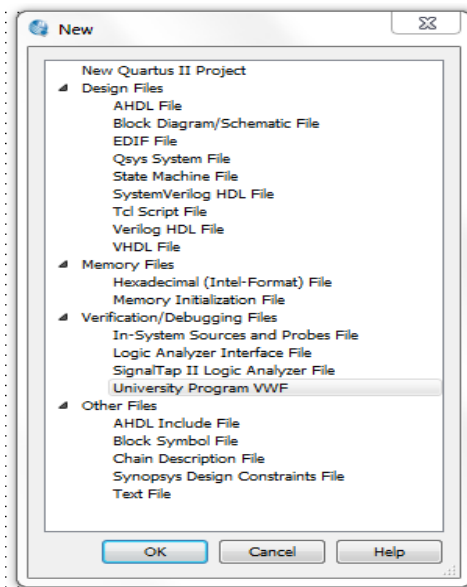

Figure 4.5.1: Creating Waveform File
2. Select 'University Program VWF' from the list (Figure 4.5.1) and click OK.